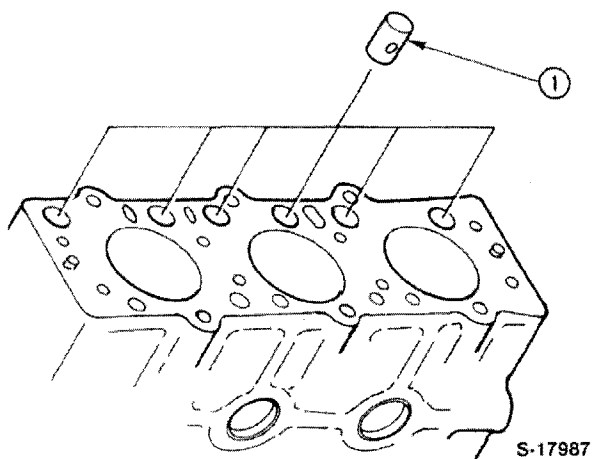

Figure 81
2. Remove the valve tappets, Figure 81.